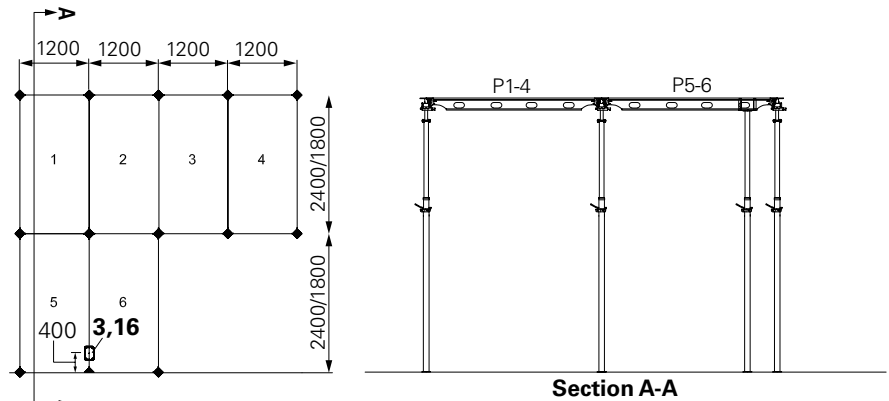

Fig. A8.02
5. Support the joints of panel 5 and 6 at longer direction with prop (**3**) and crosshead ADC (**16**). (Fig. A8.02)